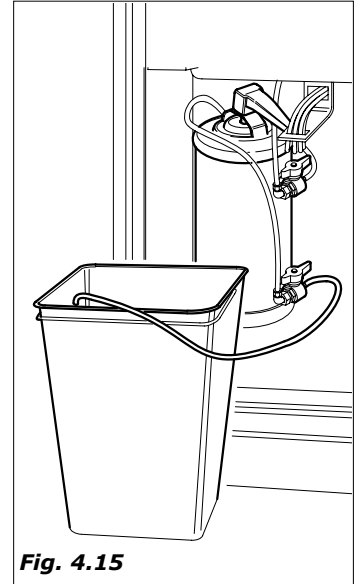

Fig. 4.15
- Let the water flow until it is clear (Fig. 4.15).